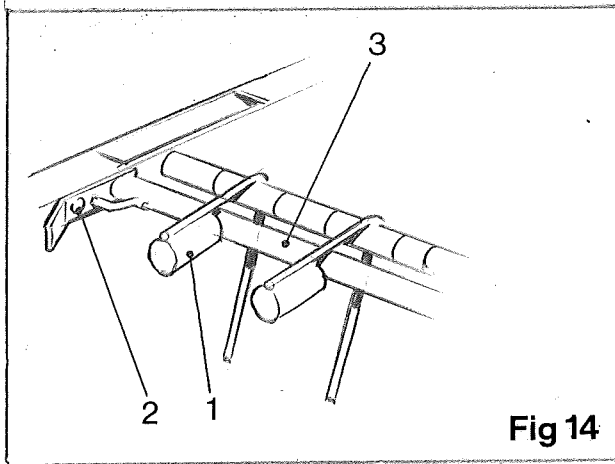

Fig 14
Weighted haulm guides (item 1, fig 14) are fitted to guide haulm into the haulm roller. They can be adjusted by slackening the retaining bolt (item 2, fig 14) and pivoting the adjusting bar (item 3, fig 14) to the required position.